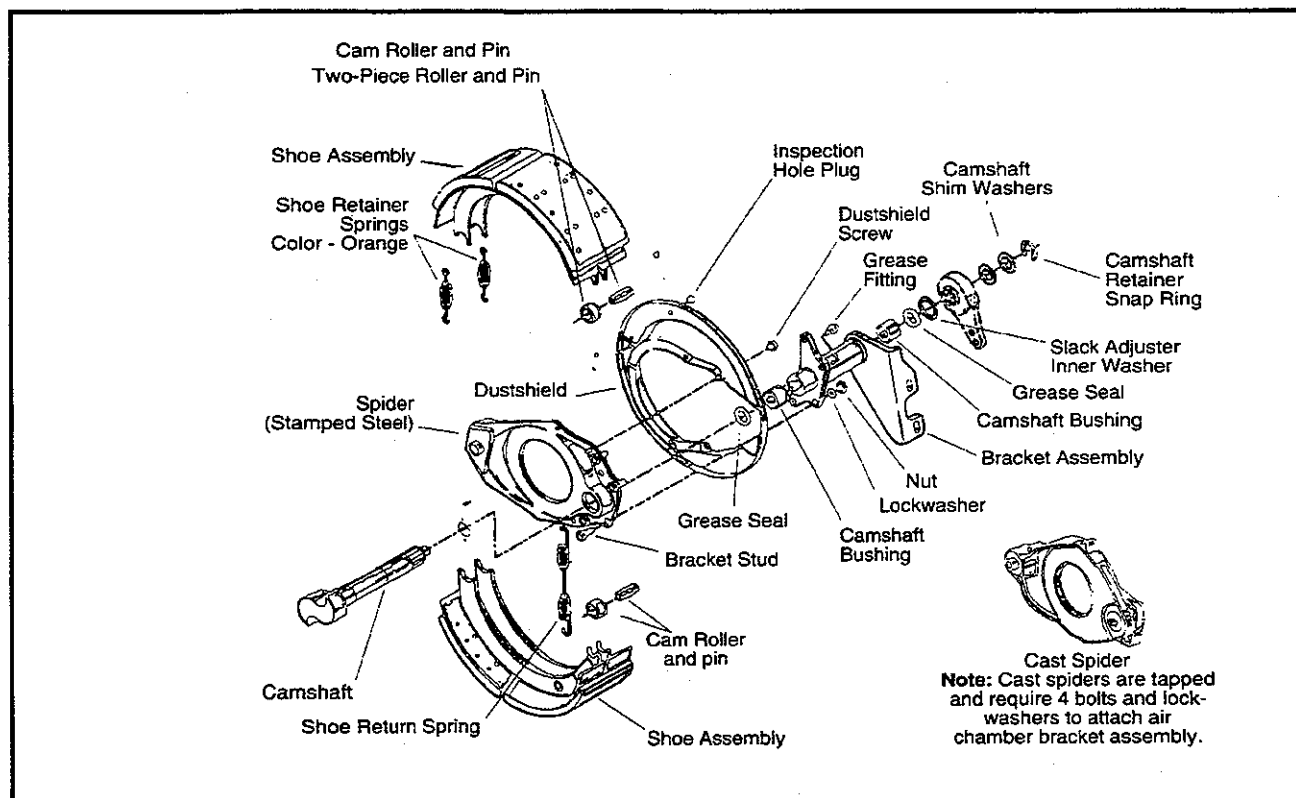

Figure 5—Brake Assembly
- **See Figure 5—Brake Assembly.**